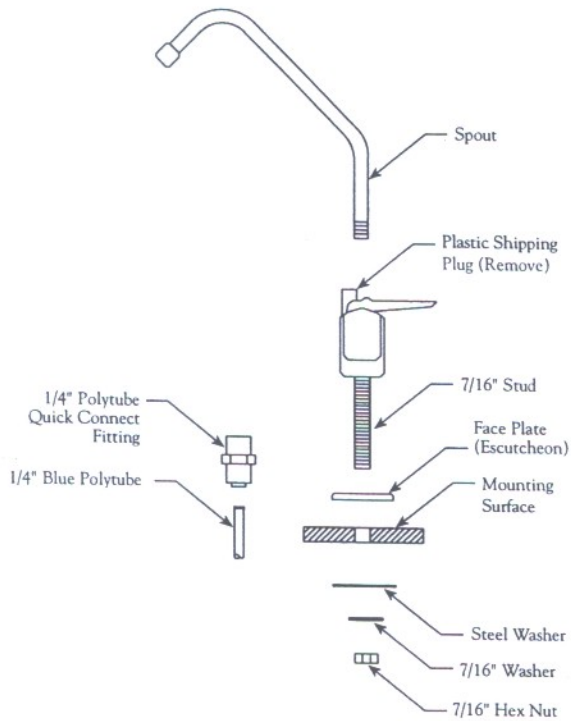

Figure 2
3. Assemble and attach the Faucet (refer to Fig. 2, page 4).